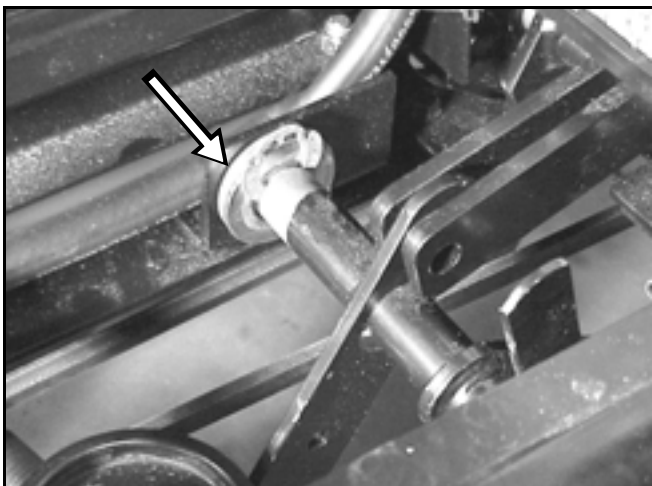

Figure 59
2. Remove the two retaining rings that are located on each side of the lift lever assembly (Figure 59).